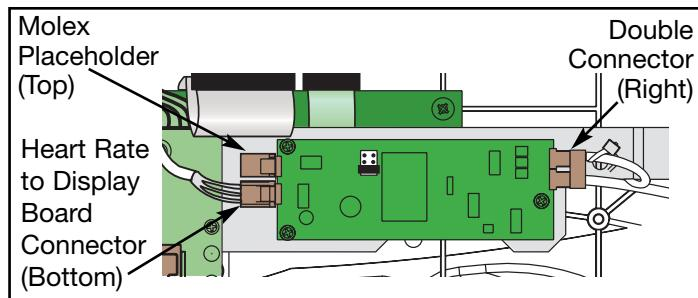

Figure 25
B. If you're not replacing the cable, disconnect the two cables and one molex placeholder from the heart rate board. (You will re-attach the molex connector in step 4A). See Figure 25.
- Locate the side of the heart rate board with the two holes and place the molex placeholder over the top three pins. See Figure 25.
- A. Connect the double connector into the right side of the heart rate board. See Figure 25.
- A.** Confirm that the two cables and one molex placeholder are firmly connected to the heart rate board in their proper places. See Figure 25.